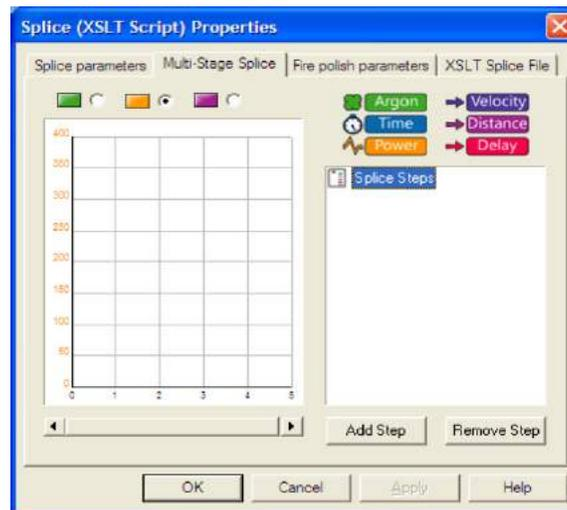
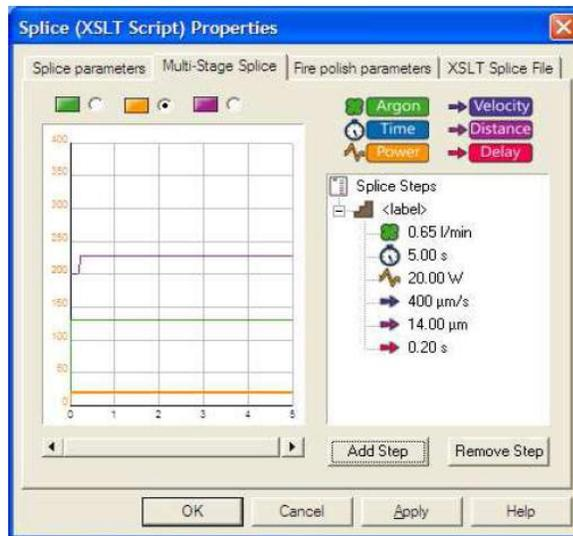

Figure 30 Multi-Stage Splice Tab
Figure 31 Adding Stages
- After setting the “Pre Splice” parameters then open the Multi Stage properties page by clicking on the Multi Stage Splice tab. The Multi-Stage Splice tab is pictured in Figure 30.
- All parameters are edited in the same manner: click once, wait a second, click again to highlight for editing as shown in Figure 30 and Figure 31.